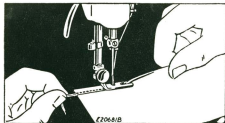

Fig. 40. Hemming Edge of Material and Pulling Back Threads While Sewing
4. Lower hemmer and start to sew, slightly pulling threads back while sewing. Keep mouth of hemmer full to produce a smooth, even hem as shown in Fig. 40.